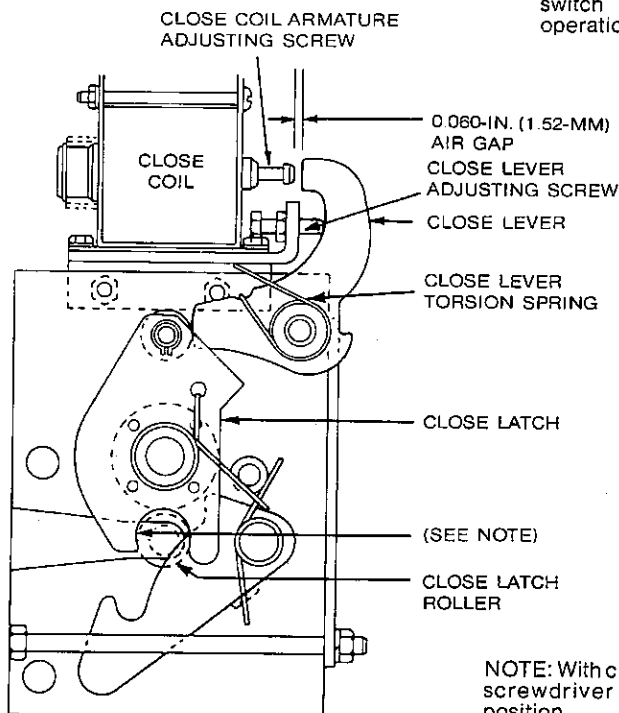

Figure 9.
2. Manually move the close latch to the set position by inserting a screwdriver through the opening in the operating mechanism frame and pulling the close latch to the set position (Figure 9).
3. With the close latch in the set position (Figure 9), the close coil armature air gap should measure 0.060 in. (15.2 mm).
2. Manually set the close latch roller to the set position as shown in Figure 9.